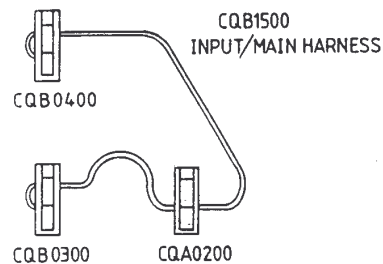

Figure 1 The new connector harness
- Remove and discard the existing cable harness linking the input PCB to the main PCB (open the latching levers, to remove the connectors from their sockets). Fit the new 3 connector harness as shown in Figure 1. The central connector goes to the main PCB and the shorter leg to the existing input PCB. Ensure both connectors are fully inserted and the latching levers are closed.